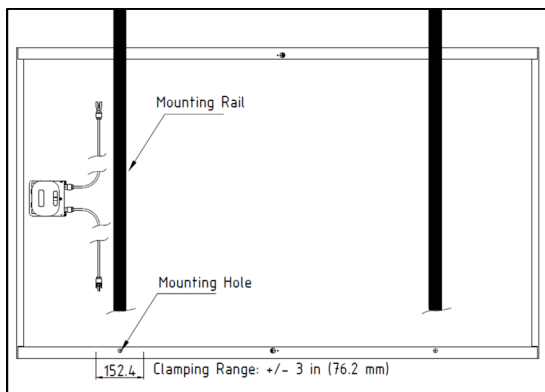

Figure 1: Mounting Hole Location and Example of Rail Mount
- A supporting structure can be used to mount the modules at various tilt angles. See Figure 1 for recommend configuration. Ensure no dissimilar combinations of metals be used that when damp or wet could result in degradation of the materials and as a result create conditions that prevent the module from meeting installation requirements and instructions set forth in this manual.
- It is recommended that the mounting rails must be aligned with the frame mounting holes (Figure 1) and run perpendicular to the length of the module.